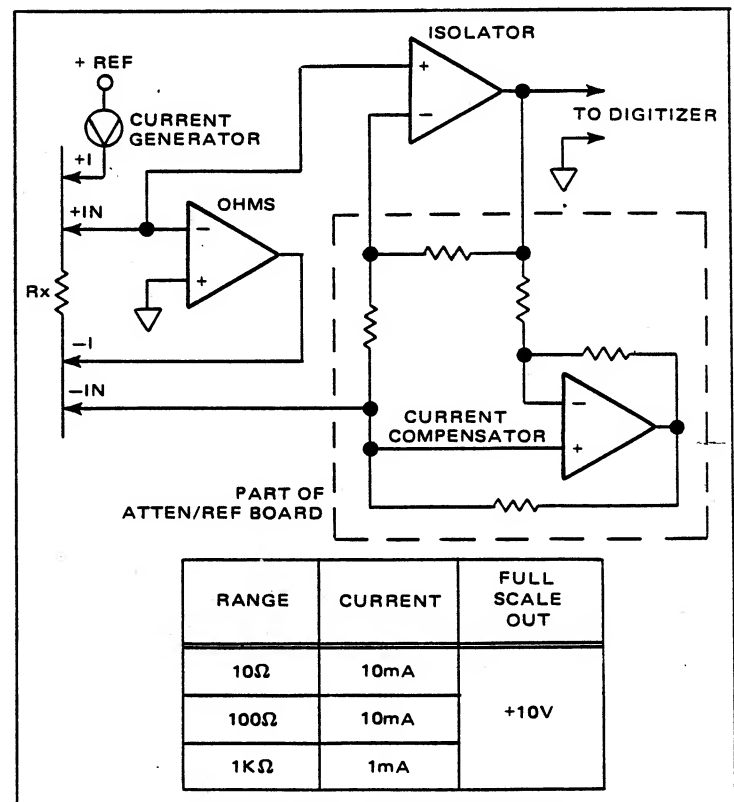

Figure 5.10 - 10 Ω - 1K Ω Ranges
5.3.4.5.4 **10 Ω - 1K Ω Ranges.** As shown in Figure 5.10, the output of the Ohms amplifier is applied to the positive input of the Current Compensator, and to the negative input of the Isolator (through part of the Gain Resistor string). The output of the Current Generator is applied to the positive input of the Isolator. In this configuration, the output of the Ohms amplifier is inverted and amplified by the Isolator for a full scale output of $+10$ volts. Isolator gain is 100 in the 10Ω range and 10 in the 100Ω and $1K\Omega$ ranges.